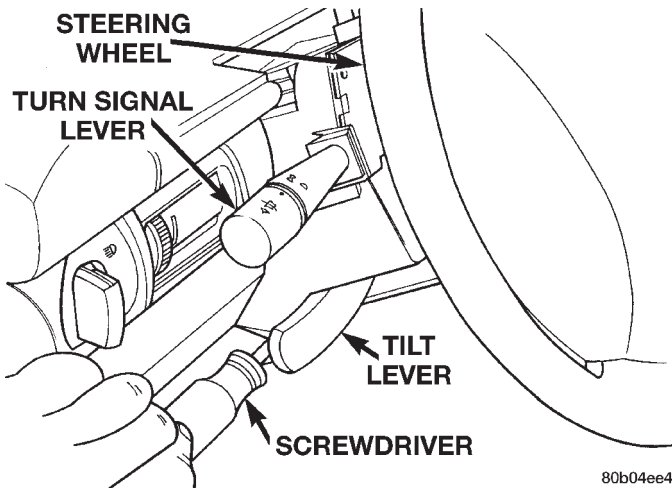

Fig. 15 Tilt Lever Screw Removal
(4) Raise column up and remove tilt lever (Fig. 15).